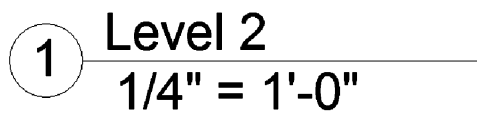

FIGURE 16-1.5 Drawing title
11. **Zoom In** on the lower left corner to view the drawing identification symbol that Revit automatically added (Figure 16-1.5).